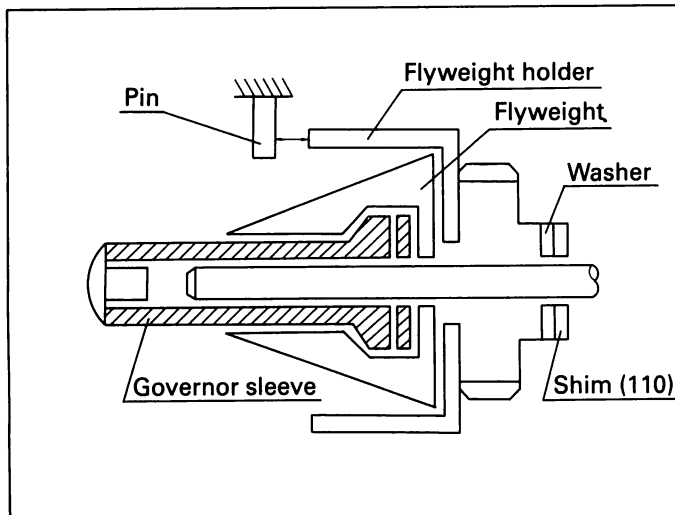

Fig. 83 Flyweight assembly diagram
5. Using a thickness gauge, measure the clearance between the end face of the flyweight holder (112) and the pin pressed into the pump housing. Adjust the clearance to 0.15–0.35 mm using the shim (110) at the back of the flyweight holder. (Figs. 83 and 84)